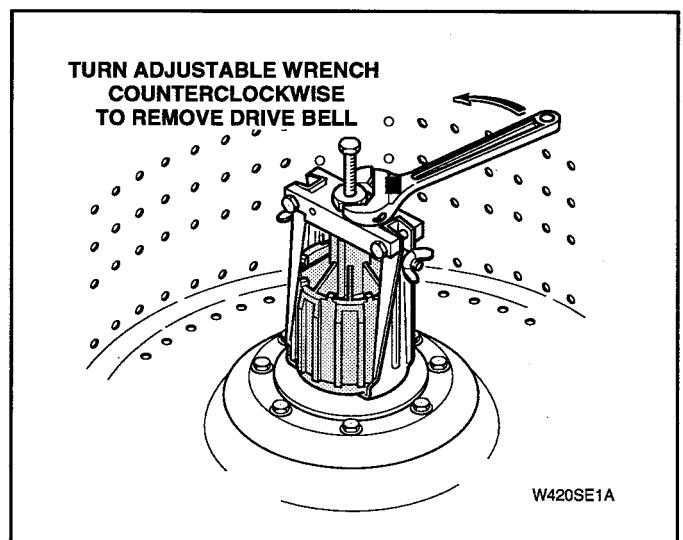

Figure 5-14
- Using an adjustable wrench, turn large nut on tool **COUNTERCLOCKWISE** to pull drive bell from transmission output shaft. See Figure 5-14.